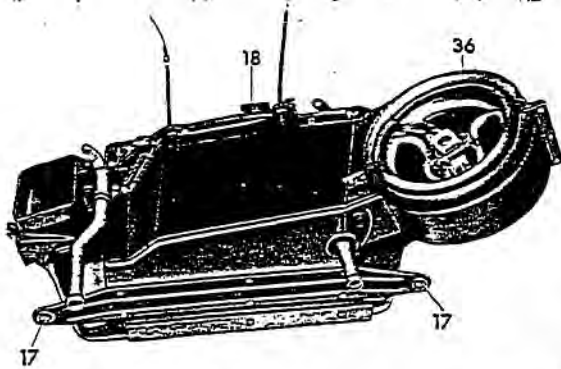

Fig. 83-3/2
10. Pull out the cable plug (12) for the blower (Fig. 83-3/1).
12. Turn out the screws (17) and (18) for the attachment of the heater box (Fig. 83-3/2).
13. Remove the two screws of the clips (8) on the left defroster nozzle (Fig. 83-3/1).
**Note:** The speedometer cable runs through the hole (16) in the left defroster nozzle.
15. Lift the left defroster nozzle, fold up the rubber ring (13) at the front and slide the defroster nozzle with the aperture (14) over the steering lock (Fig. 83-3/1).